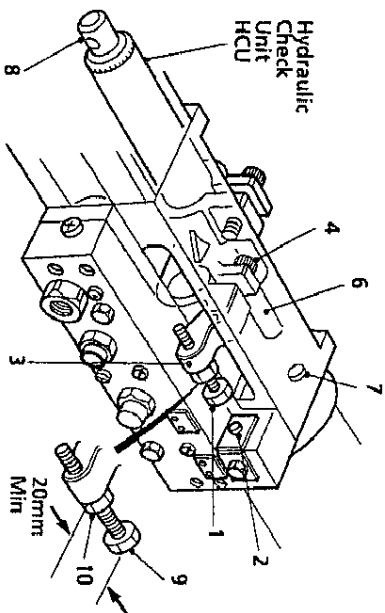

FIGURE 5 HYDRAULIC CHECK UNIT (HCU)
SETTING DRILLING OPERATION (See Figure 5)
Lock using Figure 5 (10).
the tap MUST be at least 14mm (9/16in) above the test piece for the tapping head reversing engagement travel. Between Figure 5 (2) and (1) to equal the tapping depth stance the tap is above the work piece.